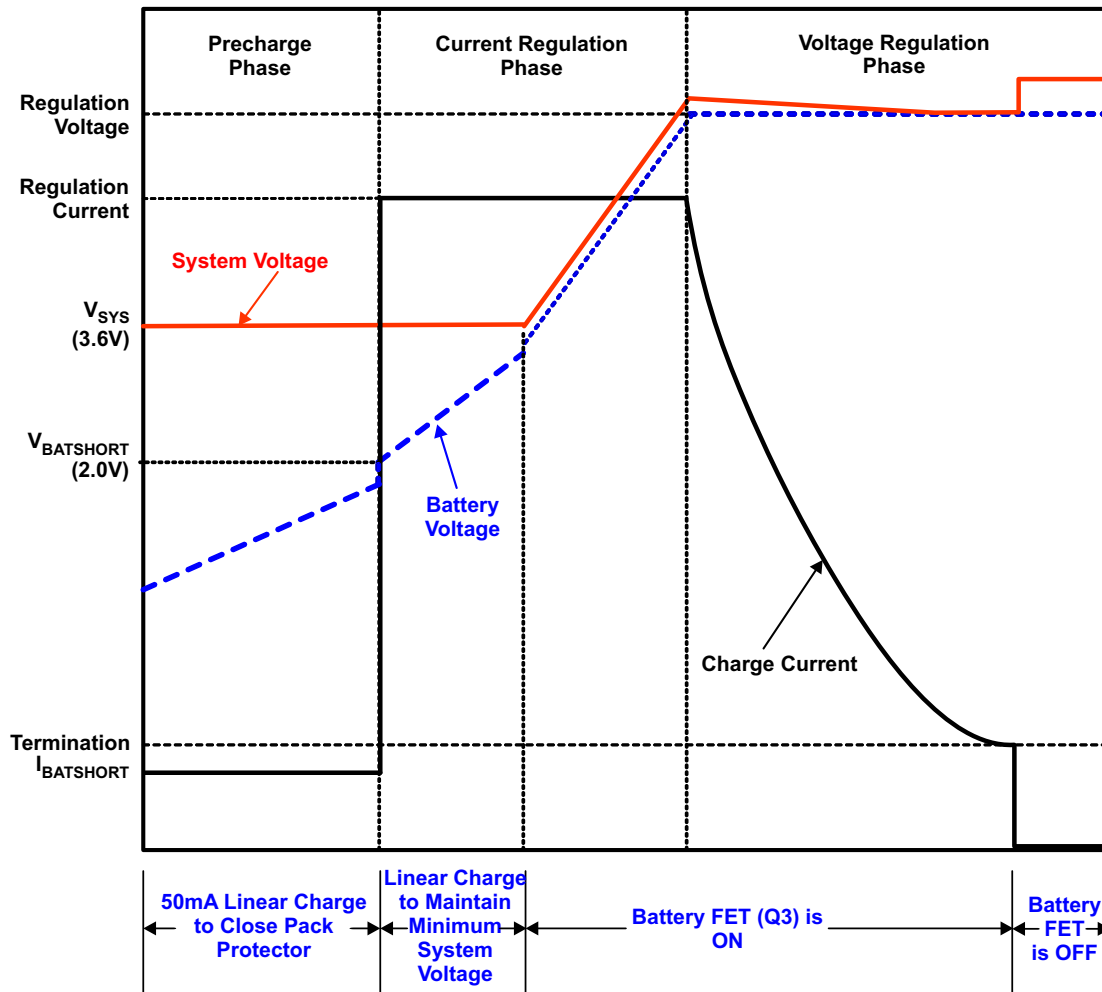

Figure 10. Typical Charging Profile of bq24260/1/1M/2 With Termination Enabled
The bq24260/1/1M/2 supports a precision Li-Ion or Li-Polymer charging system for single-cell applications. Charging is done through the internal battery MOSFET. There are 6 loops that influence the charge current; constant current loop (CC), constant voltage loop (CV), thermal regulation loop, minimum system voltage loop (MINSYS), input current limit and  $V_{IN-DPM}$ . During the charging process, all six loops are enabled and the one that is dominant takes control. The minimum system output feature regulates the system voltage to  $V_{SYSREG(LO)}$ , so that startup is enabled even for a missing or deeply discharged battery. Figure 10 shows a typical charge profile including the minimum system output voltage feature.
Once the battery is charged enough that the system voltage rises above  $V_{SYSREG(LO)}$  (approximately 3.5 V), the battery FET is turned on fully and the battery is charged with the full programmed charge current set by the I2C interface,  $I_{CHARGE}$ . The charge current is regulated to  $I_{CHARGE}$  until the voltage between BAT and PGND reaches the regulation voltage. The voltage between BAT and PGND is regulated to  $V_{BATREG}$  (CV mode) while the charge current naturally tapers down as shown in Figure 10. During CV mode, the SYS output remains connected to the battery. The impedance of the battery FET is increased to 4x of the fully on value when IBAT falls below approximately 350 mA to provide increased accuracy during termination. This will show a small rise in the SYS voltage when the  $R_{DSON}$  increases below approximately 350 mA.